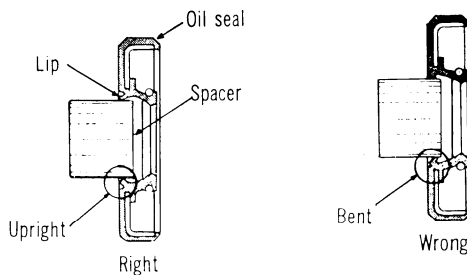

Fig. 5-5-21
16. When installing the engine sprocket spacer on the driveshaft, be careful not to bend the oil seal lips. (Fig. 5-5-21) In addition, install the spacer with its less chamfered end facing inward